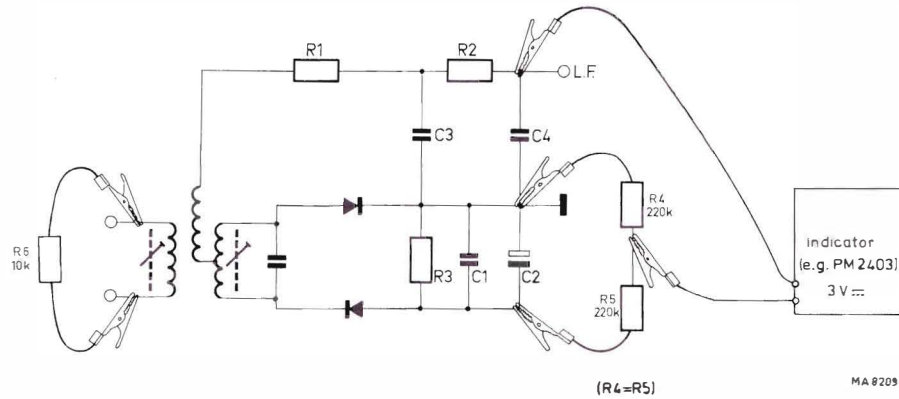

Fig. 12. Checking and adjusting the band-pass curve of the ratio detector of an f.m. receiver
- Terminate the primary circuit of the ratio detector with a resistor of approx.  $10\ \Omega$  (R6, Fig. 12). Adjust the core of the secondary circuit to minimum deflection of the indicator, which is connected according to Fig. 12. Repeat the adjustment.